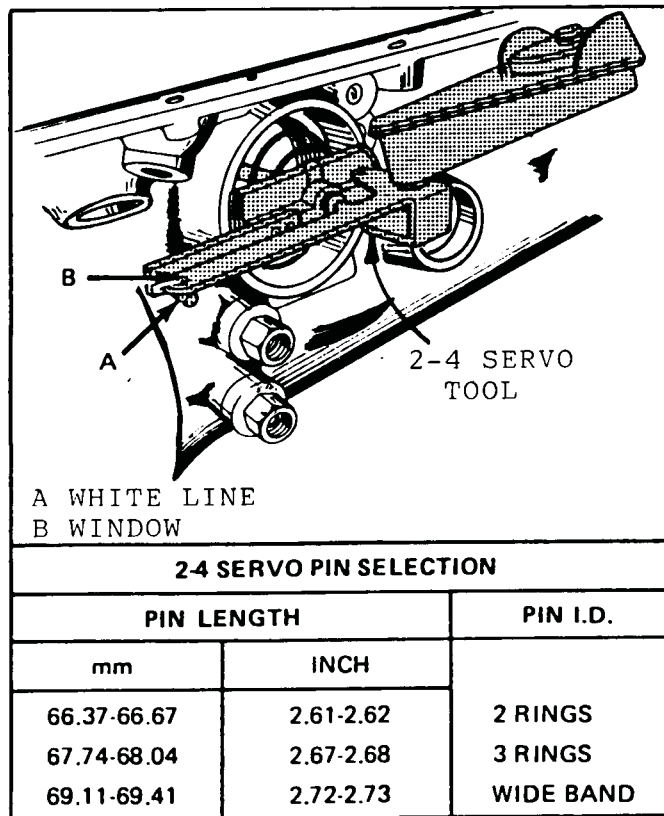

Figure 37
1. Install J-33037 with apply pin as shown in Figure 37.
4. Use the pin selection chart in Figure 37 to determine correct pin length.